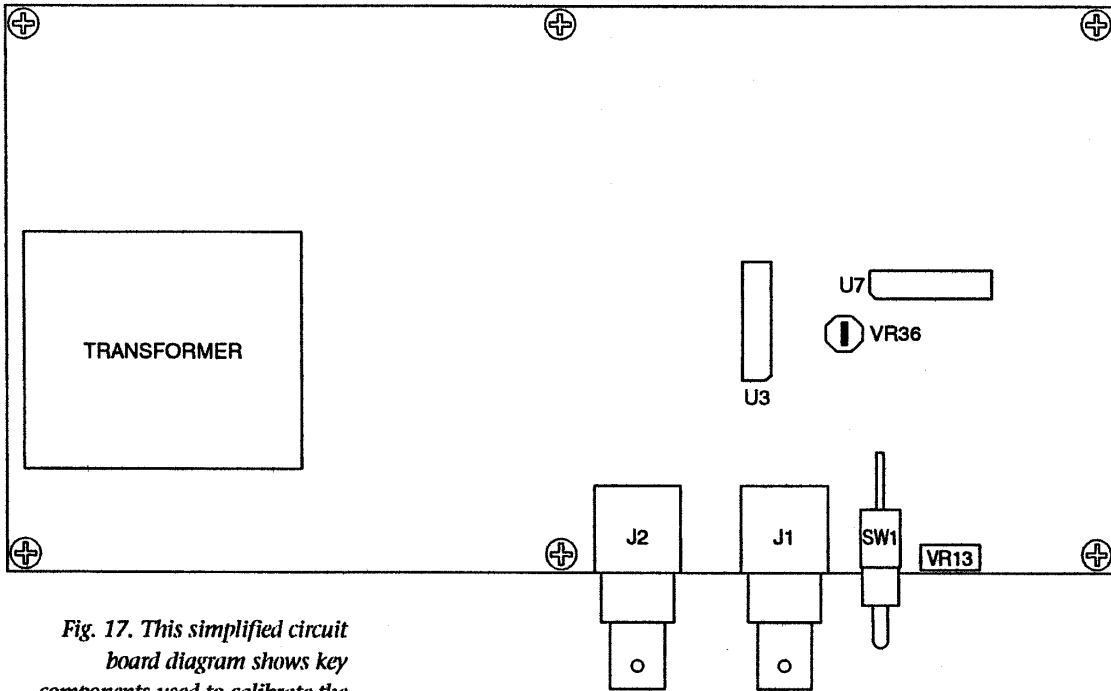

Fig. 17. This simplified circuit board diagram shows key components used to calibrate the VLM-40 for NTSC operation.
1. With the power off, remove the bottom four screws and lift off the enclosure to expose the circuit board, as shown in Fig. 17 (on the next page).